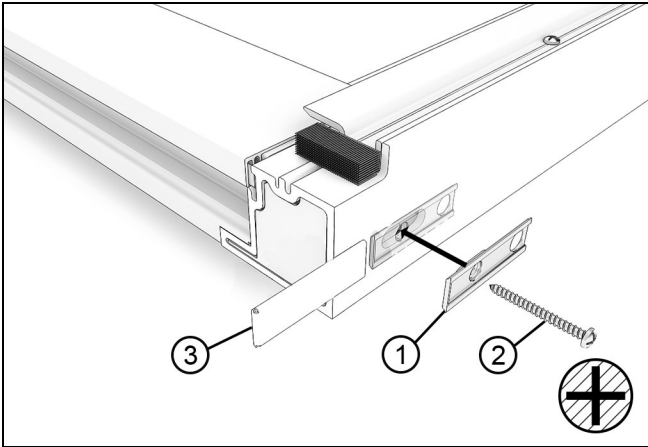

Figure 80
1. On pocket and secondary panels, fasten the cover retainer to the top of the stiles with a #8x 1 3/4" (44) Phillips head screw. Slide the cover over the retainer. See Figure 80.